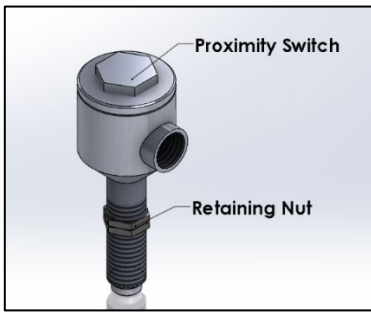

Figure 1 - Z-ALERT Switch
- b) Thread the Retaining nut onto switch (Figure 1).